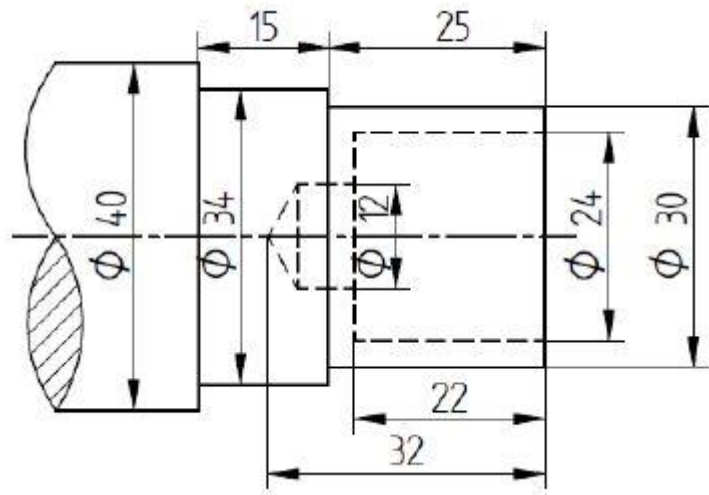

Fig :3C
- 3C.** Write a part program to obtain the component as shown in the Fig. 3C **(03)**